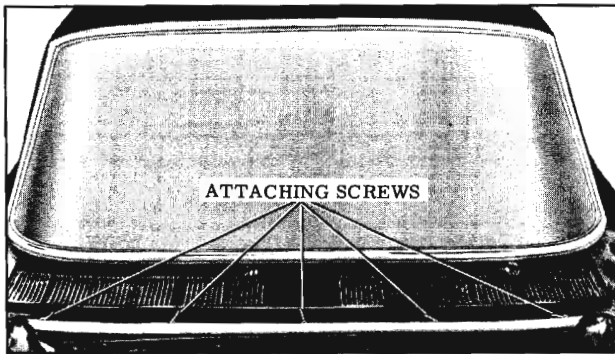

Fig. 16-226 Air Intake Grille
3. Raise hood, remove screws securing grille to shroud. (Fig. 16-226)